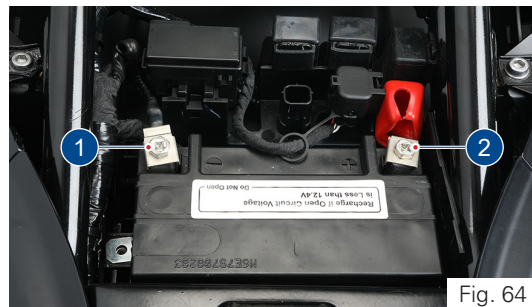

Fig. 64
- Disconnect the negative terminal (1) first followed by the positive terminal (2) (ref. Fig. 64). Carefully take out the battery.